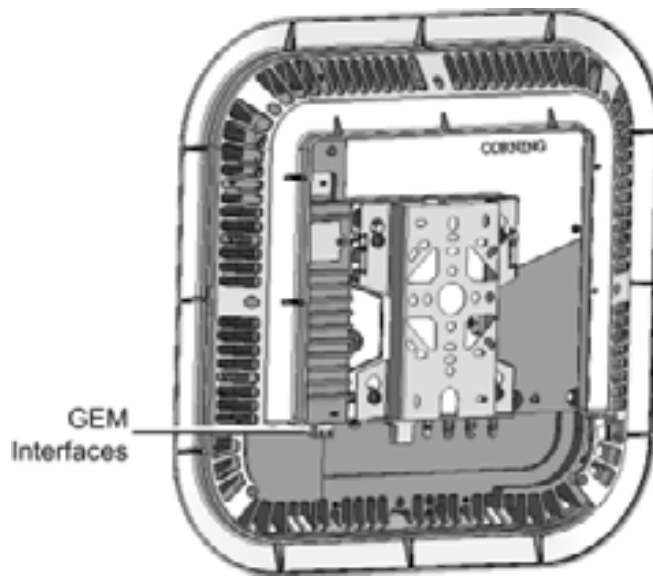

Figure 7-7. RAU and GEM with Assembled Cover
Mount the bracket on the wall (Figure 7-7) or concrete ceiling (Figure 7-8) using any of the screw hole sets and the appropriate screws (not provided).
3. Replace the cover except for the front panel so that the interface ports are accessible, as shown in Figure 7-7.